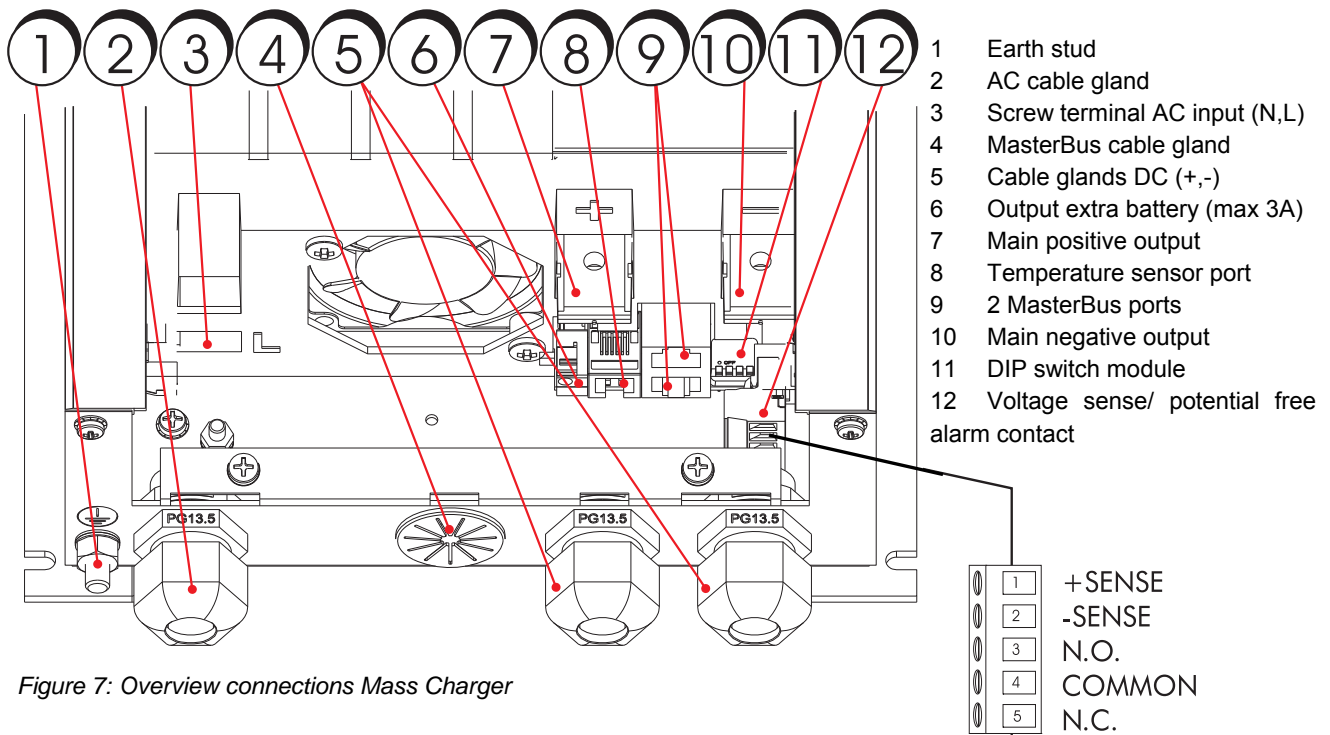

Figure 7: Overview connections Mass Charger
- 4 Compensate the voltage drop over the battery isolator by changing the setting of dip switch 4 (see fig. 7).
- Connect the plus of the second battery to the +3A terminal of the Mass Charger (see fig. 7 and 8).
The standard temperature sensor is provided with 6 m cable and a double-sided tape for easy installation. Determine the warmest place on the battery set and make it clean and grease free. Remove the piece of paper from the tape and stick the sensor on the battery. Plug the modular cable into a terminal at the right of the Mass Charger (see fig. 7). It is not necessary to shorten the cable. When you want to shorten it anyway please notice the polarity of the plug and use the old connector as an example.
To shorten the charge time substantially, the battery cable losses can be compensated by using the sense function. Use 0,75 mm², preferably red and black wire and secure these with fuses of 2A slow blow. Connect the wires with the two upper terminals of the green connector at the right side of the cabinet (see fig. 7). Pay good attention to the polarity of the wires, red on +S and black on -S. Now connect the other side of the wires: black on the minus of the battery and red on the battery side of the Mass Charger fuse.
The battery charger is equipped with a potential free contacts alarm relay, see figure 7. The alarm function has two modes: standard (factory setting) and DC alarm mode (continuous mode).
Figure 7 shows the Mass Charger connections.
- 2 mm flat blade screw driver for the sense terminal (figure 7 point 12).